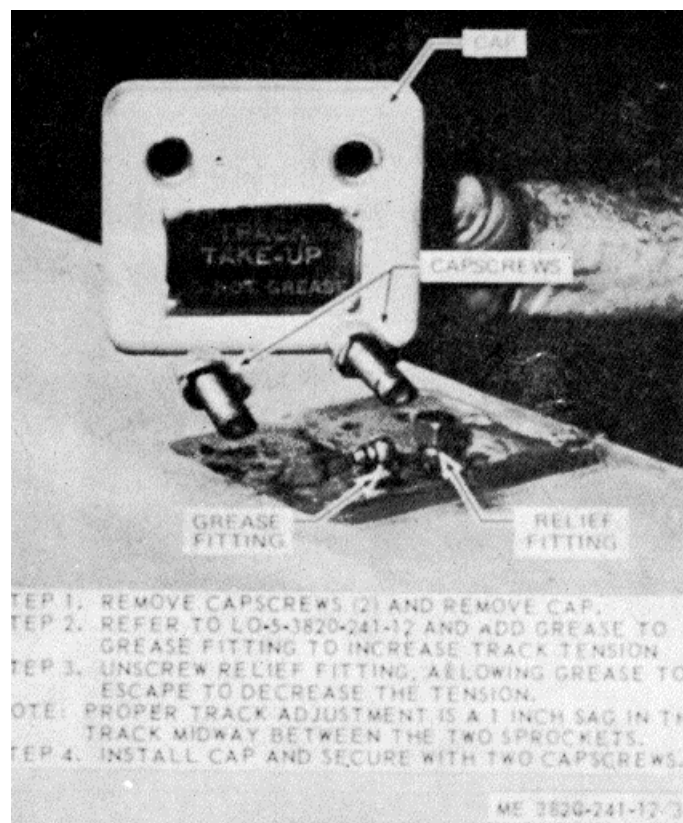

Figure 3-8. Crawler track tension adjustment
b. Adjust the track tension as illustrated in figure 3-8.